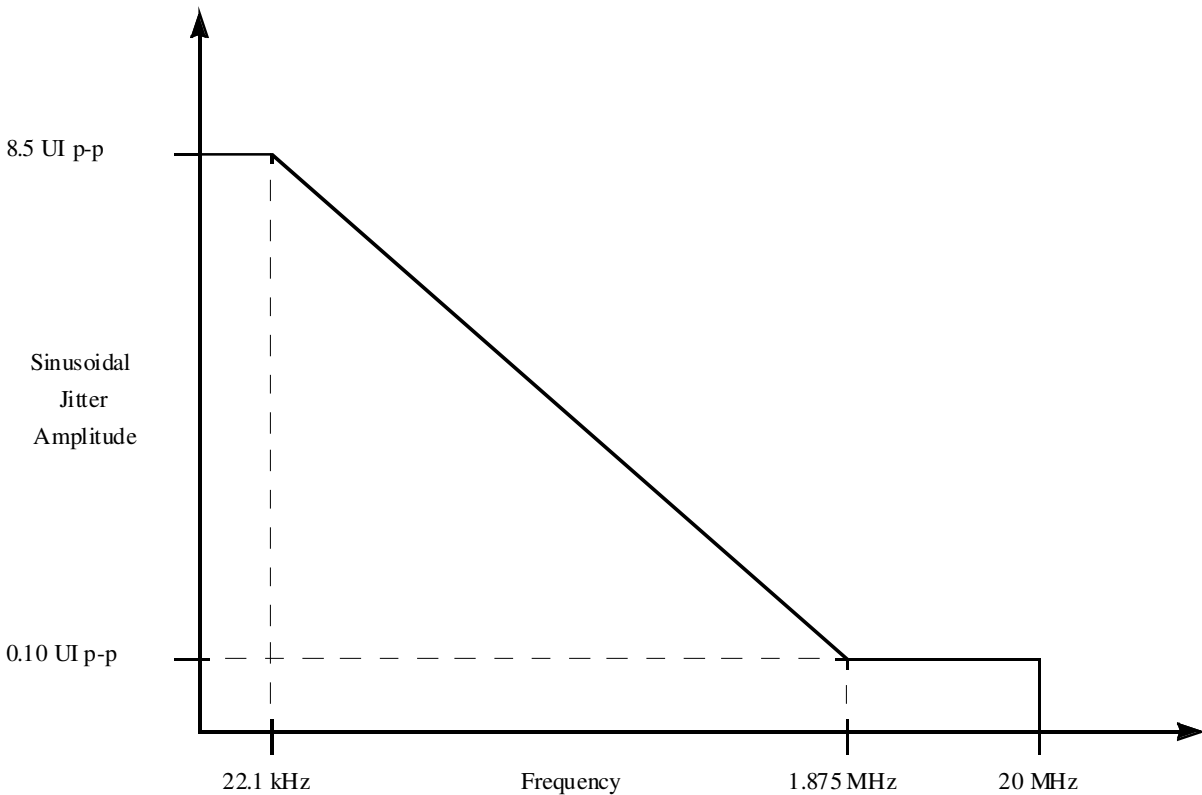

Figure 14. Single frequency sinusoidal jitter limits
2. See Figure 14 for single frequency sinusoidal jitter limits.